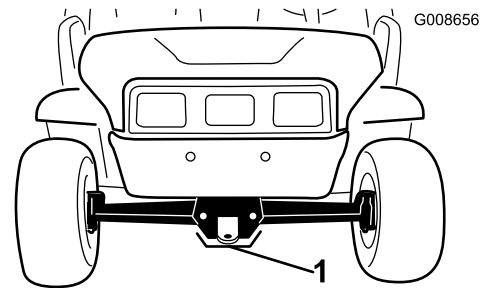

Figure 21
- The lifting point at the front of the machine is at the front of the frame behind the towing tongue (Figure 21).